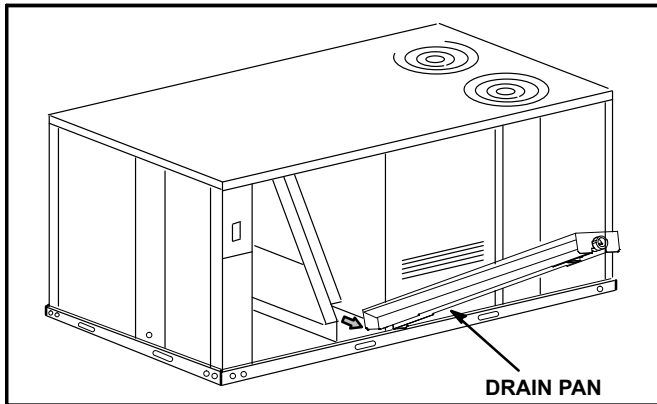

FIGURE 6
- 4- Lift front edge of the drain pan (to clear bottom drain plug) and slide drain pan out of unit. See figure 6.